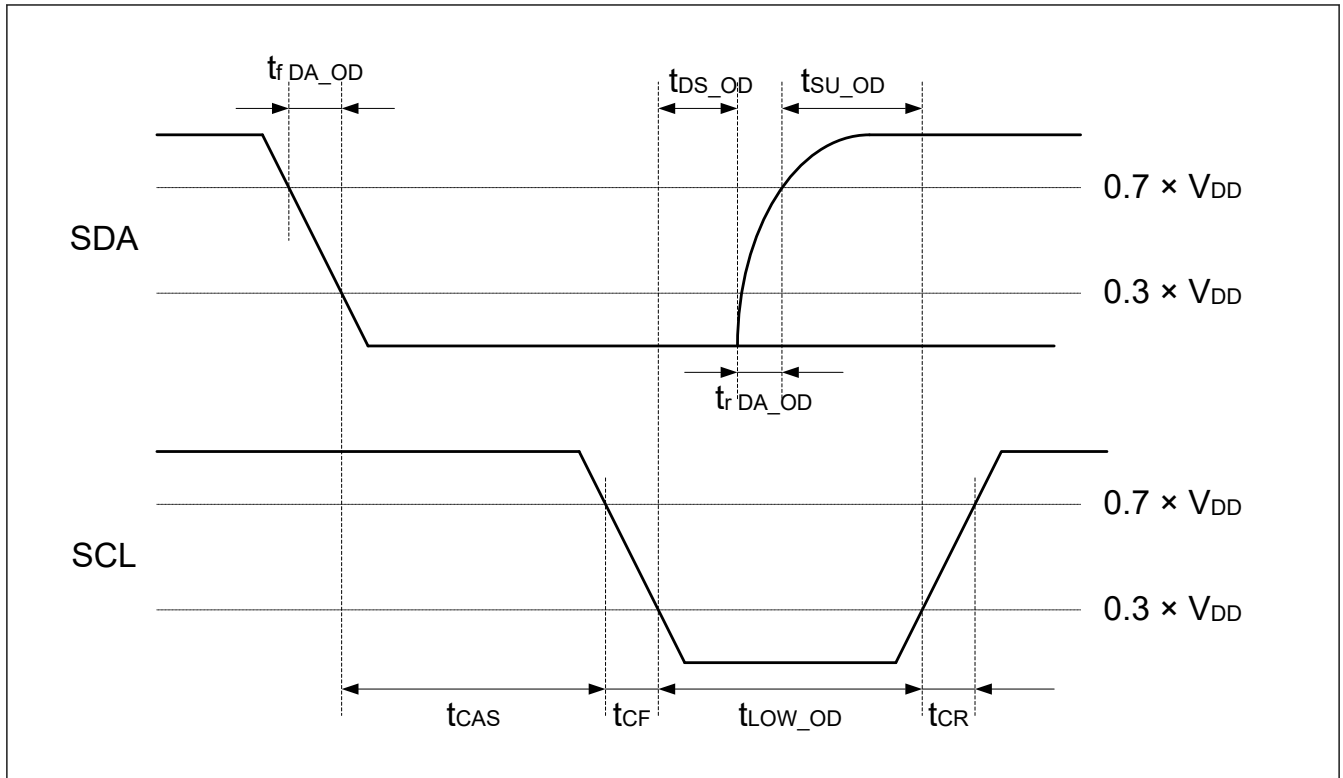

Figure 2.45 I3C START condition timing
| I3C Open Drain Timing Parameters | SCL Clock Low Period | $t_{LOW_OD}^{*1 *2}$ | 200 | — | ns | Figure 2.45 |
| | | $t_{DIG_OD_L}$ | $t_{LOW_ODmin} + t_{fDA_ODmin}$ | — | ns | Figure 2.45 |
| | SDA Signal Fall Time | t_{fDA_OD} | t_{CF} | 12 | ns | Figure 2.45 |
| | Clock After START (S) Condition | $t_{CAS}^{*5 *6}$ | 38.4 nano | For ENAS0: 1 μ | seconds | Figure 2.45 |